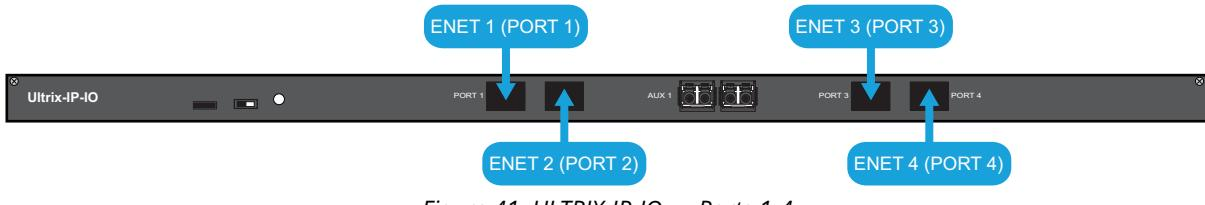
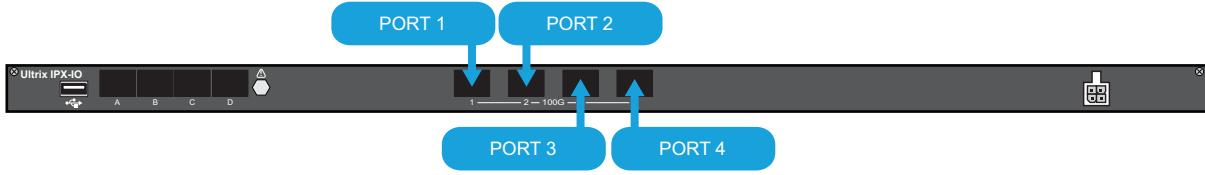

Figure 41 UTRIX-IP-IO — Ports 1-4
Figure 42 UTRIX-IPX-IO — Ports 1-4
3. Cable your port as required. (Figure 41 or Figure 42)